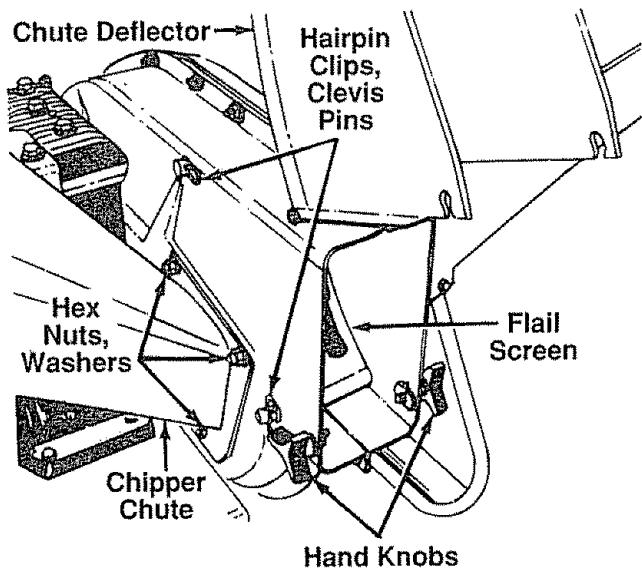

FIGURE 18.
- Remove two hairpin clips from the clevis pins which extend through the housing. Remove the clevis pins. Lift the flail screen from inside the housing. See figure 18.
**NOTE:** Be certain to reassemble the flail screen with the curved side down as shown in figure 18.
- Remove the chipper chute by removing three hex nuts and washers. A 1/2" wrench is required. See figure 18.
Make certain blades are reassembled with the sharp edge facing the direction shown in figure 18 (sharp edge is assembled toward the slotted opening in the impeller assembly).